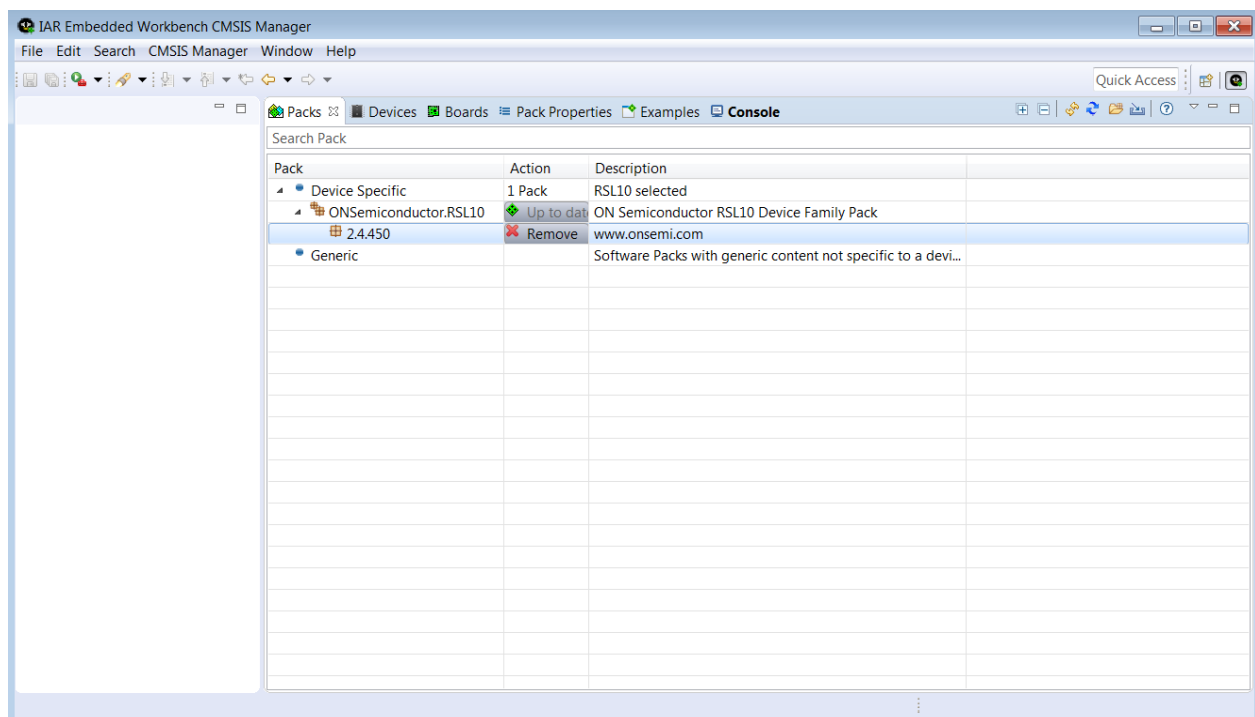

Figure 30. IAR Embedded Workbench CMSIS Manager after RSL10 CMSIS-Pack is Installed
- In the **Devices** tab, expand **All Devices > ON Semiconductor > RSL10 Series**, and select **RSL10** from the list. The **RSL10 CMSIS-Pack** now appears in the list of installed packs in the **Packs** tab. Expanding *ON Semiconductor.RSL10* makes the **Pack Properties** tab display the details of the RSL10 CMSIS-Pack. The figure "IAR Embedded Workbench CMSIS Manager after RSL10 CMSIS-Pack is Installed" (Figure 30) illustrates what the Pack Manager perspective looks like after installation.